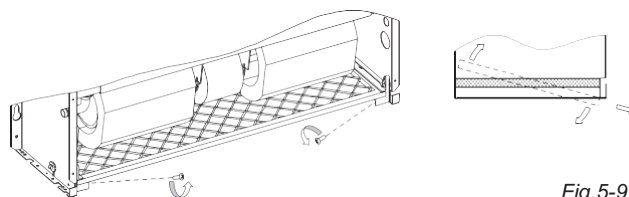

Fig.5-9
- 1) Upright row (non-directional) one side of the inhalation grating, and putdown the other side, and then slide follow the arrow's direction refers to Fig.5-9